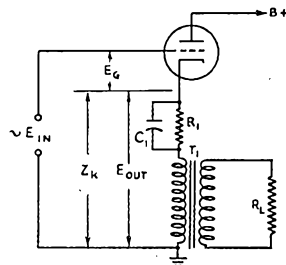
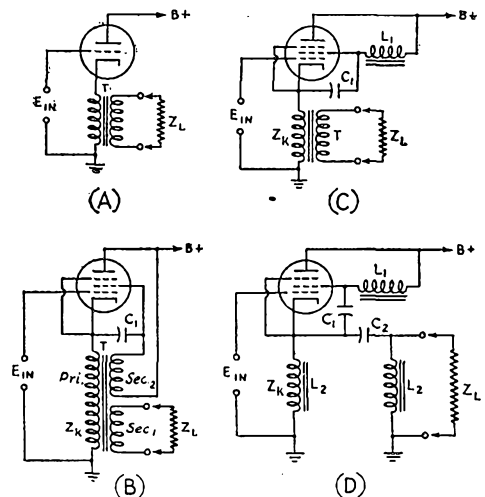
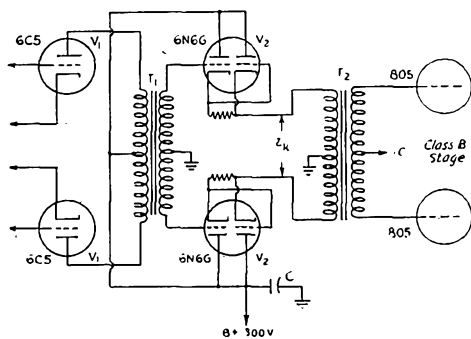

Fig. 1 — Triode cathode-follower power amplifier.
Fig. 2 — Single-ended stages with cathode coupling.
Fig. 4 — Cathode-coupled push-pull triode stage.
For an explanation of the amplifier characteristics referred to above, let's examine Fig. 1. This is the simplest type of cathode-follower power amplifier. In this circuit R_1 is used to supply additional bias since the d.c. resistance of the output transformer primary is generally too low to provide adequate bias. Condenser C_1 is of such a value that its reactance is negligible at the lowest frequency. If this is so, then the cathode impedance, Z_k , will be the primary impedance of the transformer T_1 . This impedance will, of course, be a complex impedance, but over the mid-frequency range may be considered as resistive. Assuming that a signal in the mid-frequency range is applied, on the positive half of the cycle the grid is driven positive which increases the plate current. This current flowing through the cathode impedance will produce a voltage drop making the cathode more positive with respect to ground. With respect to ground, the cathode and grid voltages are in phase. The effective driving voltage, however, is the voltage between the grid and cathode, labeled E_o , and, since E_{in} and E_{out} have the same polarity with respect to ground, they are effectively in series across the grid-to-
It is this feature which provides good frequency response with poor-quality transformers. For example, a common way of reducing the cost of a transformer is to reduce the number of turns. This results in lower inductance and poor low-frequency response. However, in the cathode-follower circuit, the decreasing impedance of the transformer primary with a decrease in frequency which results from the decreasing reactance of the primary inductance, causes the phase of the output voltage to change with respect to the input voltage. Thus the cancellation will be less and E_g will increase, causing the tube to be driven harder. For an explanation of the good-regulation feature, reference again is made to Fig. 1. With E_{in} constant, any tendency for E_{out} to rise, as might accompany the sudden removal of the load, would reduce E_g , and this in turn would reduce E_{out} , thus tending to stabilize the output voltage for any given input voltage, regardless of any decrease in load from full load. This regulation also can be seen from the formula for voltage gain of a triode cathode-follower. The voltage gain is
Thus far the discussion has been devoted to the use of triodes. Pentodes or beam tubes also may be used and are even superior to triodes. Their use requires an additional provision to keep the cathode and screen at the same a.c. potential so that true pentode operation may be secured. In a conventional amplifier the screen grid is bypassed to ground, as is usually the cathode. The screen therefore is maintained at a constant d.c. potential above the cathode but they are both at effective a.c. ground potential. The input signal then causes the plate voltage to vary up and down while the cathode and screen voltages remain fixed. In a cathode-follower circuit, however, the plate voltage remains constant and the cathode rises and falls in accordance with the input signal. Thus, if true pentode operation, and as a consequence full power output, is to be obtained, the screen grid must be made to rise and fall with the cathode. Two methods of accomplishing this are shown in Figs. 2 (B) and 2 (C). Fig. 2 (B) makes use of a special transformer, T , with a third winding, labeled Sec_2 . This winding has the same number of turns as the primary, Pri , and is connected so that the screen and cathode voltages are in phase. It can be readily seen that if Sec_2 and Pri have the same number of turns, there will always be a fixed voltage difference between the screen and cathode. This voltage difference will be equal to the d.c. voltage applied to the screen. The condenser C_1 is added to make negligible any variation in the transformer construction and to insure zero phase difference between the two voltages. Its value should be large so that the reactance is small at the lowest frequency. In Fig. 2 (C) the same
Four types of single-ended cathode-follower power-amplifier circuits are shown in Fig. 2. No provision for d.c. bias is shown since this may be added in a similar manner to that shown in Fig. 1. Fig. 2 (A) uses a triode and has been fully covered in the foregoing discussion. Although Figs. 2 (B) and 2 (C) are shown using pentodes, the circuits are equally applicable to beam tubes. The difference between these two circuits is the manner in which true pentode operation is obtained. The gain and power output is the same for both. Since tube data usually give the transconductance instead of the μ for pentodes, the following formula is to be preferred in calculating the gain of single-ended pentode or beam-tube cathode-followers.
How this knowledge of the gain is made use of will be covered in more detail in the design section which follows. Fig. 2 (D) utilizes a single-section high-pass π filter as the coupling network. Again a pentode has been used for illustrative purposes, although a beam or triode tube might be used as desired. The gain is calculated from Eq. (4) and Z_k may be assumed to be equal to Z_L . In designing this coupling network, F_c , the cut-off frequency, is chosen to be slightly lower than the lowest frequency it is desired to pass, and the capacity of C_2 is given by
The push-pull versions of the circuits in Fig. 2 are shown in Figs. 4, 5, 6, and 7. Fig. 4 uses a pair of 6N6Gs to represent the triode-type of cathode-follower. The 6N6G actually is two triodes con-
The design procedure for the triode cathode-follower stage in Fig. 4 starts with the selection of the Class-B input transformer, T_2 . If the Class-B stage is assumed to be a pair of 805s, the peak load represented by their grids will be approximately 5000 ohms across half of the secondary, and since the correct load for the 6N6Gs is 10,000 ohms, plate to plate, a transformer with an impedance ratio, primary to one-half the secondary, of 2 to 1, or a turns ratio of 1.41 to 1, will be required. The tube manual supplies the information that the 6N6Gs will deliver 8 watts of power across this 10,000-ohm load. The peak voltage delivered across this load will be